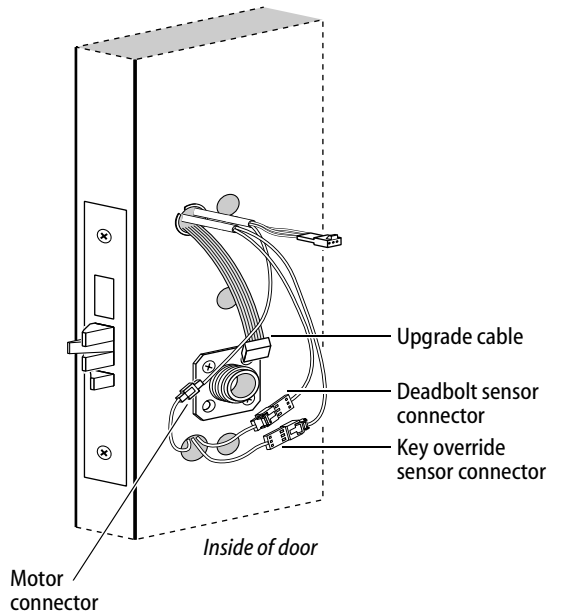

Figure 5b Disconnecting the motor and sensor connectors
- 3 From the inside of the door, disconnect the motor connector, key override sensor connector (mortise locks with key override sensing), and deadbolt sensor connector (mortise locks with deadbolt sensing). See Figure 5b.